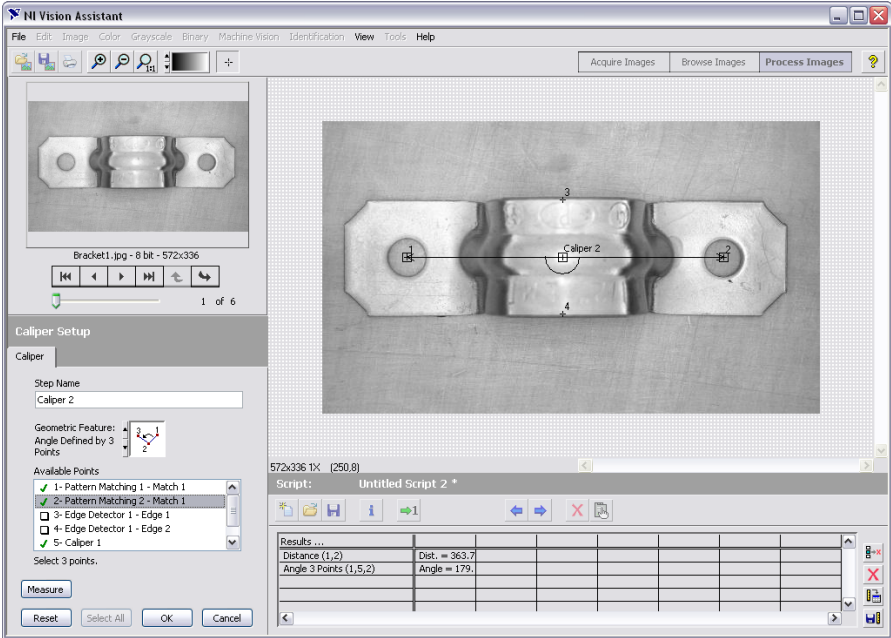

Figure 4-8. Using the Caliper Tool to Collect Measurements
10. Select **Angle Defined by 3 Points** in the **Geometric Feature** listbox. Click points **1**, **5**, and **2**, in this order, to find the next measurement—Bracket Angle—which measures the angle of the bracket arms with respect to a vertex at point 5, as shown in Figure 4-8.
Figure 4-8 shows the image with Bracket Distance and Bracket Angle selected on the image and displayed in the results table.